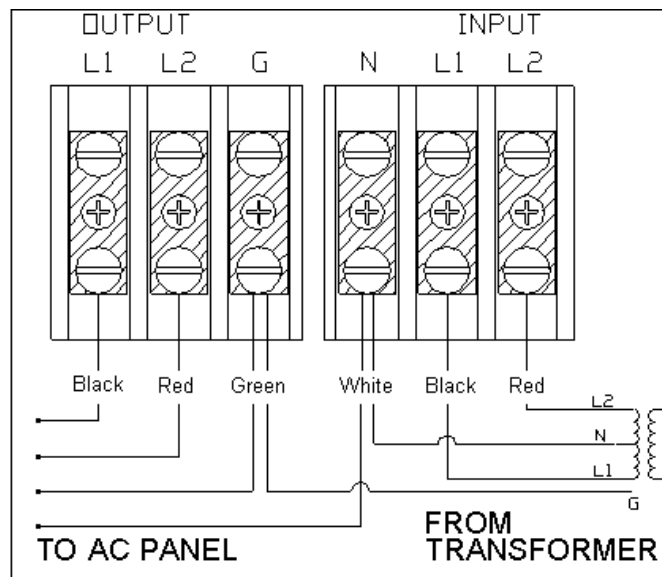

Figure 2. SmartBoost 50™ Connections
3.	Connect the black conductor to L1 and red conductor to L2 to the SmartBoost 50™'s AC INPUT terminals. Connect the green ground conductor to the terminal marked G. See Figure 2.
4.	Connect the vessel's AC panel feed wires (black, L1 and red, L2) to the SmartBoost 50™'s AC OUTPUT terminals. Connect the neutral conductor to the terminal marked N. Connect the green ground conductor to the terminal marked G. There should now be two conductor wires on both the N and G terminals. See Figure 2.